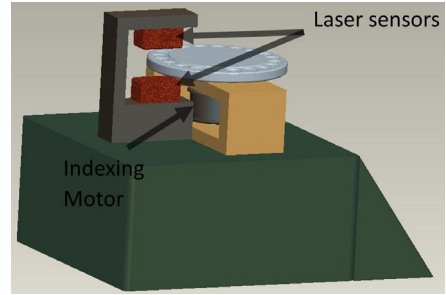

Figure 1: Diagram of Less Common Metals Thickness Instrument
- Produced in-house. (Figure 1)